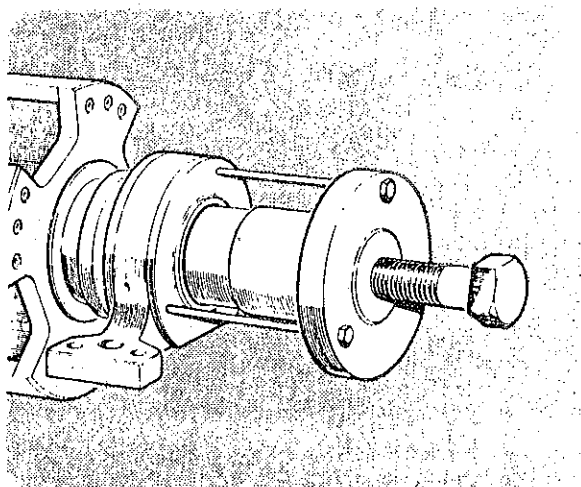

Figure 27. Rear Bearing Removal
- (i) Fit the end of the Bearing remover over the Hub end and bolt through the Pillow Block Housing and end plates with the 3 Puller Bolts as shown in Figure 27.